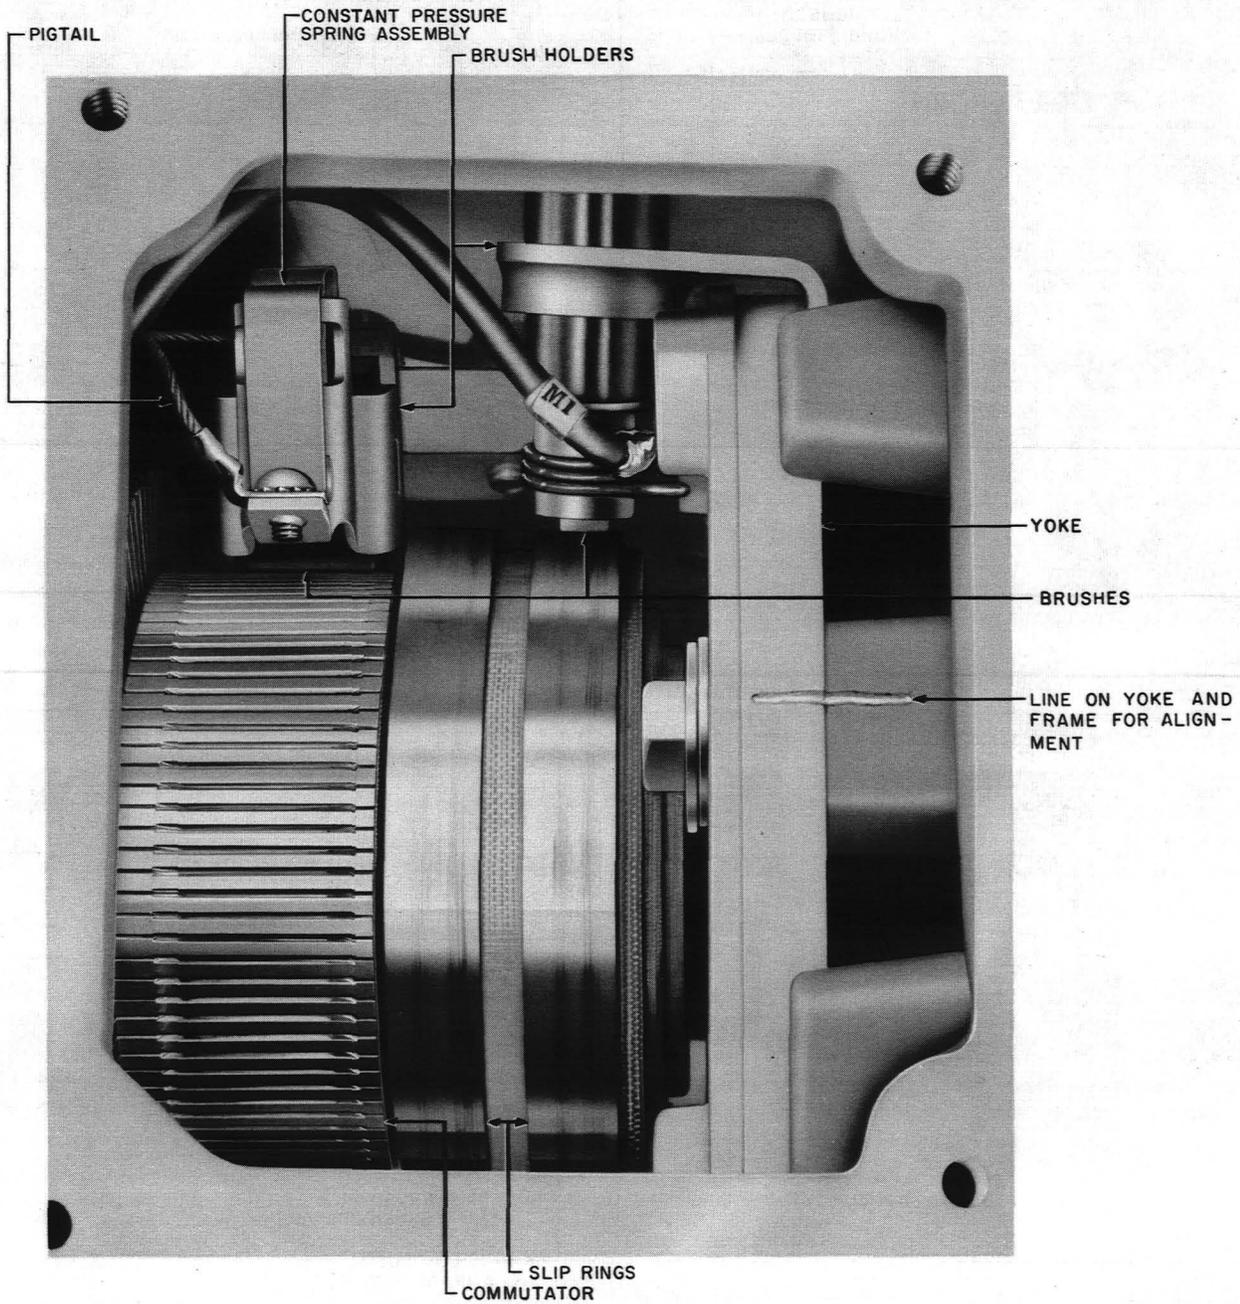

Fig. 4 - Yoke, Slip Rings, and Commutator
1.05 Brush-holder yoke position marks (see Fig. 4), designating the position of the yoke for best commutation are located on the yoke and on the frame of the generator. These marks are established by the manufacturer, and when the yoke is set with both marks in line, the brushes will usually be in the proper position for the best commutation.
φ(c) The yoke shall be located so that the position marks on the yoke and on the stationary surface adjacent to it are in line (see Fig. 4).